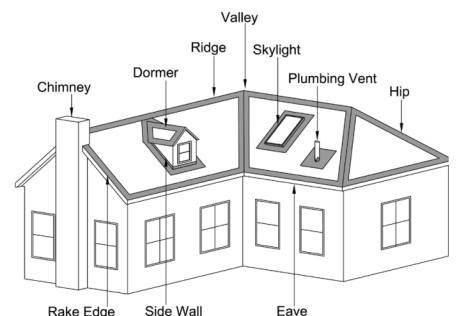

Figure 3
- Additionally, for added protection, leak barriers should be installed at areas as noted in **Fig. 3**.
For a leak barrier... Weather Watch® or StormGuard® underlayment can be used as the eave protection membrane. These membranes can be installed at the areas as shown in **Fig. 3** as well.